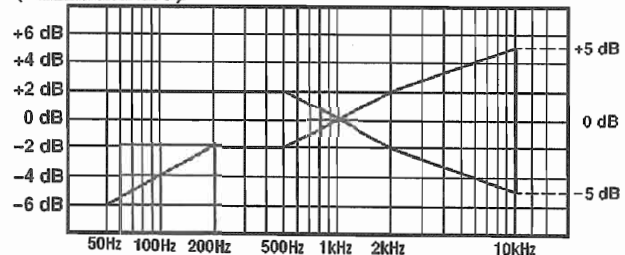

Fig. 14
8. Follow the procedure for the "Normal Tape Check" and ensure the playback output levels stay within the range shown in Fig. 14.